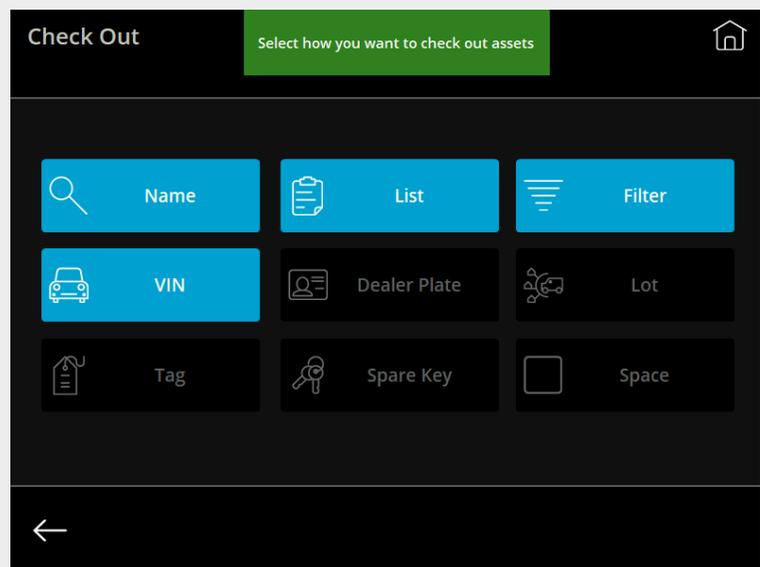

Fig. 44 – Options for check-out
3. Select how you want to check out assets from the Check Out screen shown in Fig. 44.
Note: There are further check-out filters available to be switched on that are currently grayed out, as seen in Fig. 44. Please contact Support to enable further options.